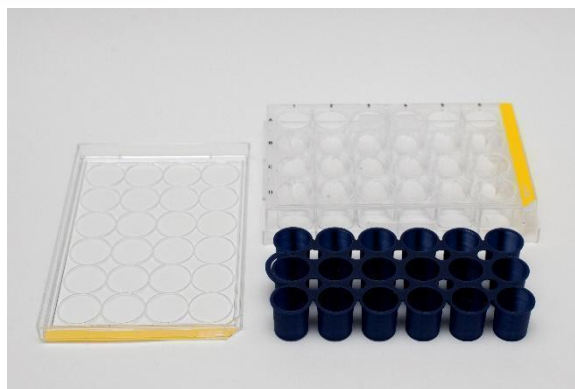

Figure 8. Unpacking Gelacell™ well plate and removing the blue tops.
1. Adhering to aseptic techniques, place the Gelacell™ package under a laminar flow hood, take the well plate out of the package and remove the blue tops (Figure 8).